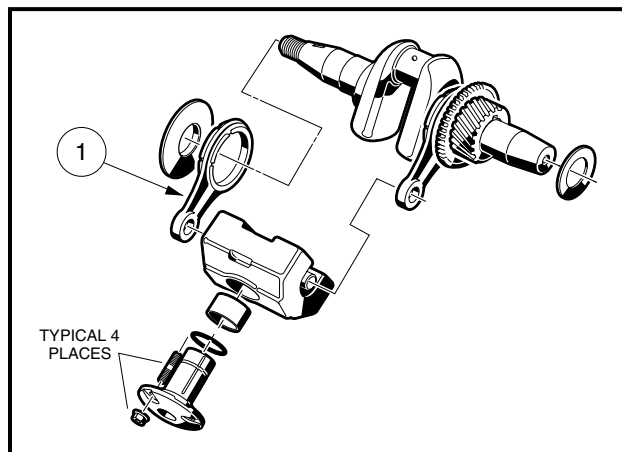

Figure 18-69 Inspect Link Rod
1. Clean and inspect the link rod (1) bearing surfaces. If the bearing surface of the small end is scored or damaged, replace the link rod. If the large end bearing is scored or damaged, the link rod must be replaced (**Figure 18-69, Page 18-34**).
**NOTE:** Do not remove the link rod on the PTO (power take-off) side unless link rod on the opposite end needs replacement. The crank-gear is very tightly fitted to the crankshaft so that it can transfer engine torque to the camshaft. Ignore Crankshaft and Counterbalance Disassembly (steps 2 through 6, page 18-33), if the link rod opposite of the PTO side passes inspection (**Figure 18-69, Page 18-34**).